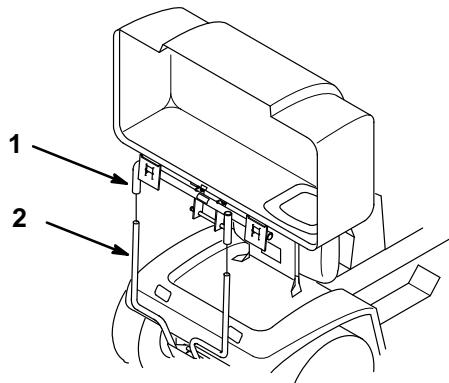

Figure 26
3. Carefully lift the bagger top and slide off the quick-attach bracket (Fig. 26).